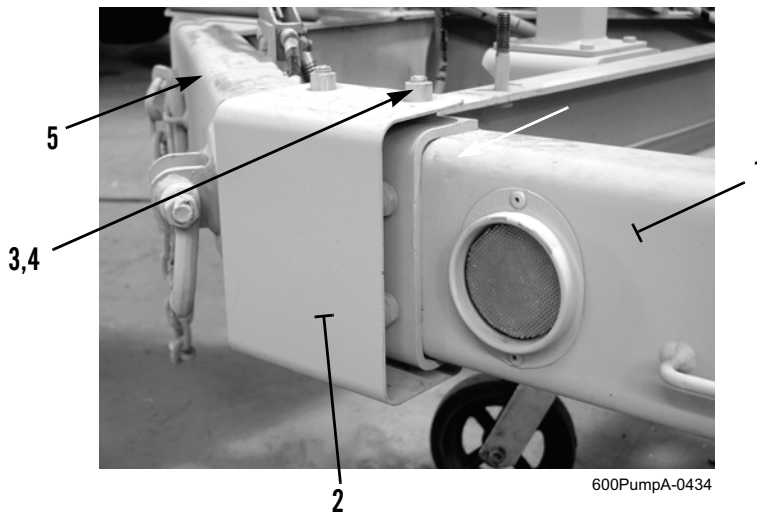

Figure 1. Drawbar Huckbolts.
1. Remove two cover plates (Figure 1, Item 2) from trailer frame (Figure 1, Item 1).
2. Install lifting equipment on drawbar (Figure 1, Item 5).
3. Remove nine huckbolts (Figure 1, Item 3), collars (Figure 1, Item 4), and drawbar (Figure 1, Item 5) from trailer frame (Figure 1, Item 1) and place on flat surface. Discard huckbolts.
4. Remove lifting equipment from drawbar (Figure 1, Item 5).